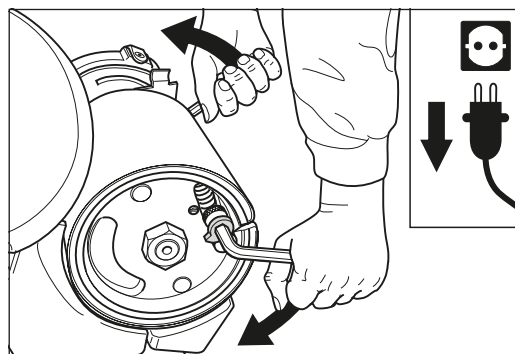

Fig. 34 Clamp the abrasive sheet using the two hexagonal socket wrenches (size 10 mm).
- 10 Now clamp the abrasive sheet in place by pressing the hexagonal socket wrench downwards using your left hand and at the same time pulling the other hexagonal socket wrench upwards using your right hand (fig. 34). This turning movement pulls the abrasive sheet inwards and tightens it between the clamping bolts.